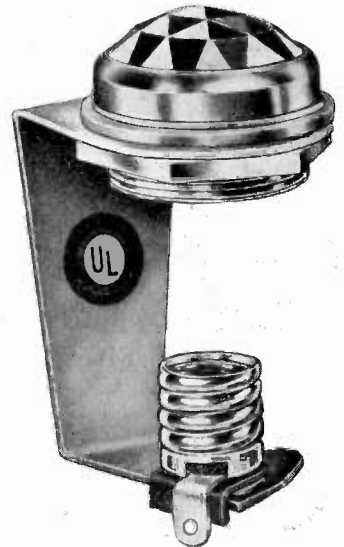

FIG. 24
- No. 31-18-16-431 Faceted 1" Lens (for 1" mounting hole) (Fig. 24)